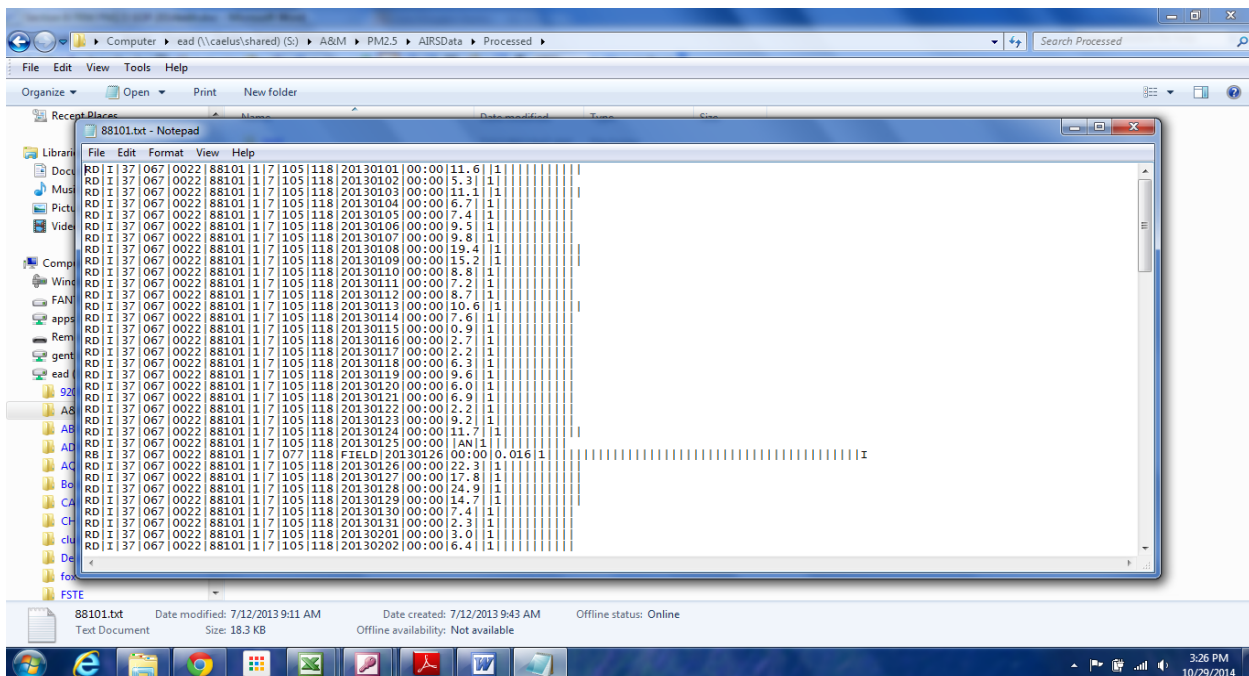

Figure 42: 88101.txt
6.6.3.4 Files written to S:\A&M\PM_{2.5}\AIRSData\Processed. Edit EACH AIRS data file using Notepad (see Figure 42). Start with 88101.txt, which is the filter weight data. Follow formatting example below: